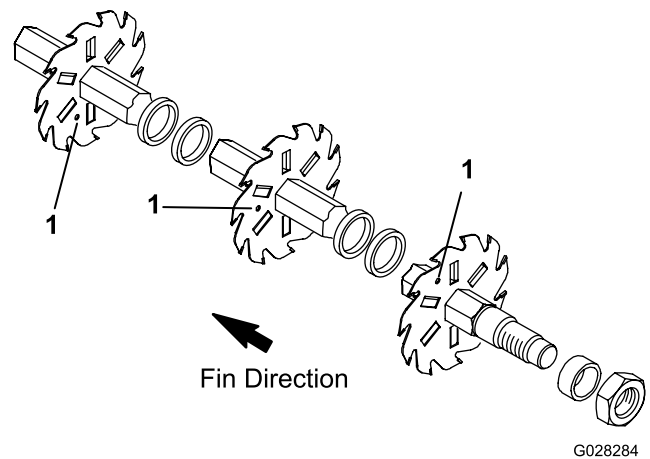

Figure 5
3. Install the next blade counter-clockwise so the index reference hole is misaligned with the first blade hole by 1 hex of the shaft (Figure 5). Continue to install the spacers and blades in this manner until the full complement of blades have been installed.